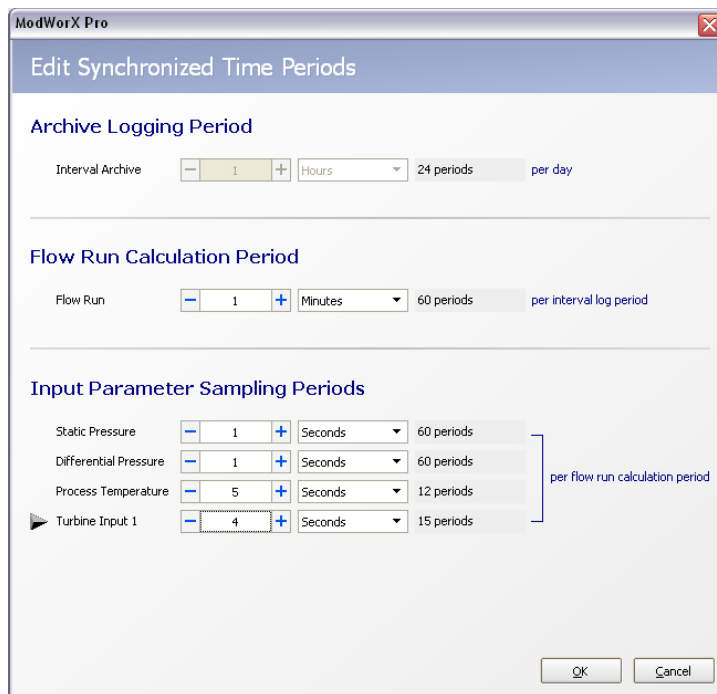

Figure 5.5
- To change the sampling period, click **Edit**. The Edit Synchronized Time Periods dialog will appear, and an arrow will point to Turbine Input (Figure 5.5, page 70).